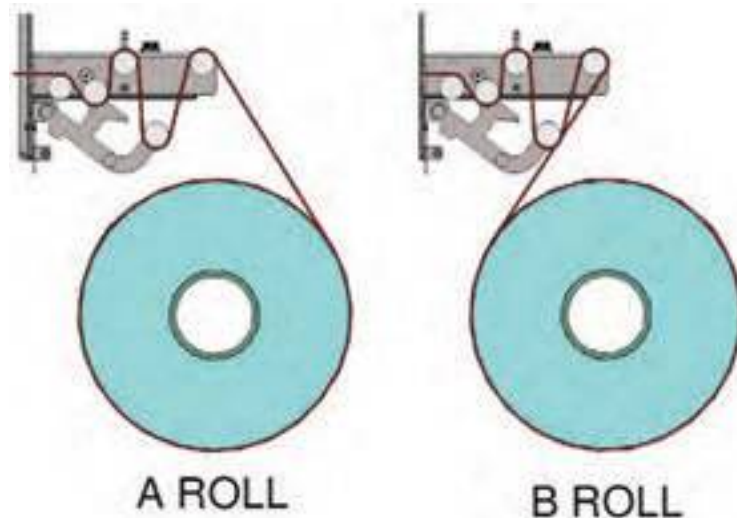

Figure 3.2-1. Film roll orientation
6. Manually unroll approximately 6 feet of film and lace the rollers of the swing arm as shown in figure 3.2-1. Ensure to set the roll selector switch accordingly. Lower the swing arm by moving the locking lever to the open position. **Replace the swing arm guard.**